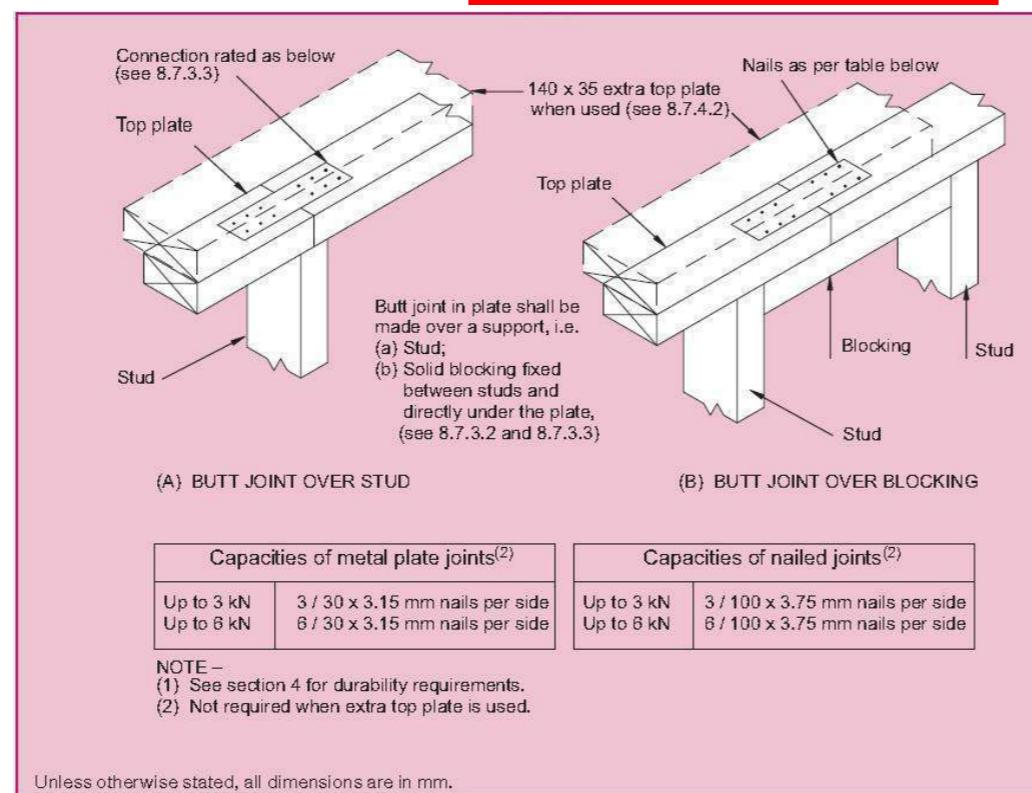

Figure 8.15 – Connecting top plates in line – Walls containing bracing (see 8.7.3.3)
- Bracing capacity not exceeding 100 bracing units: A 3 kN connection as shown in figure 8.15;
- Bracing capacity exceeding 100 bracing units: A 6 kN connection as shown in figure 8.15.
- Wall top plates to which ceiling diaphragms are attached: A 6 kN connection as shown in figure 8.15